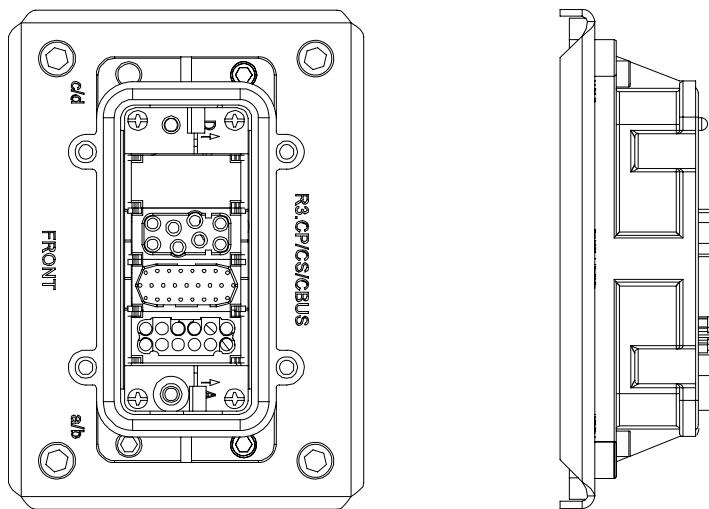

Figure 65 Harting connector for internal routing.
- All signals are connected with a Harting connector, see Figure 65.